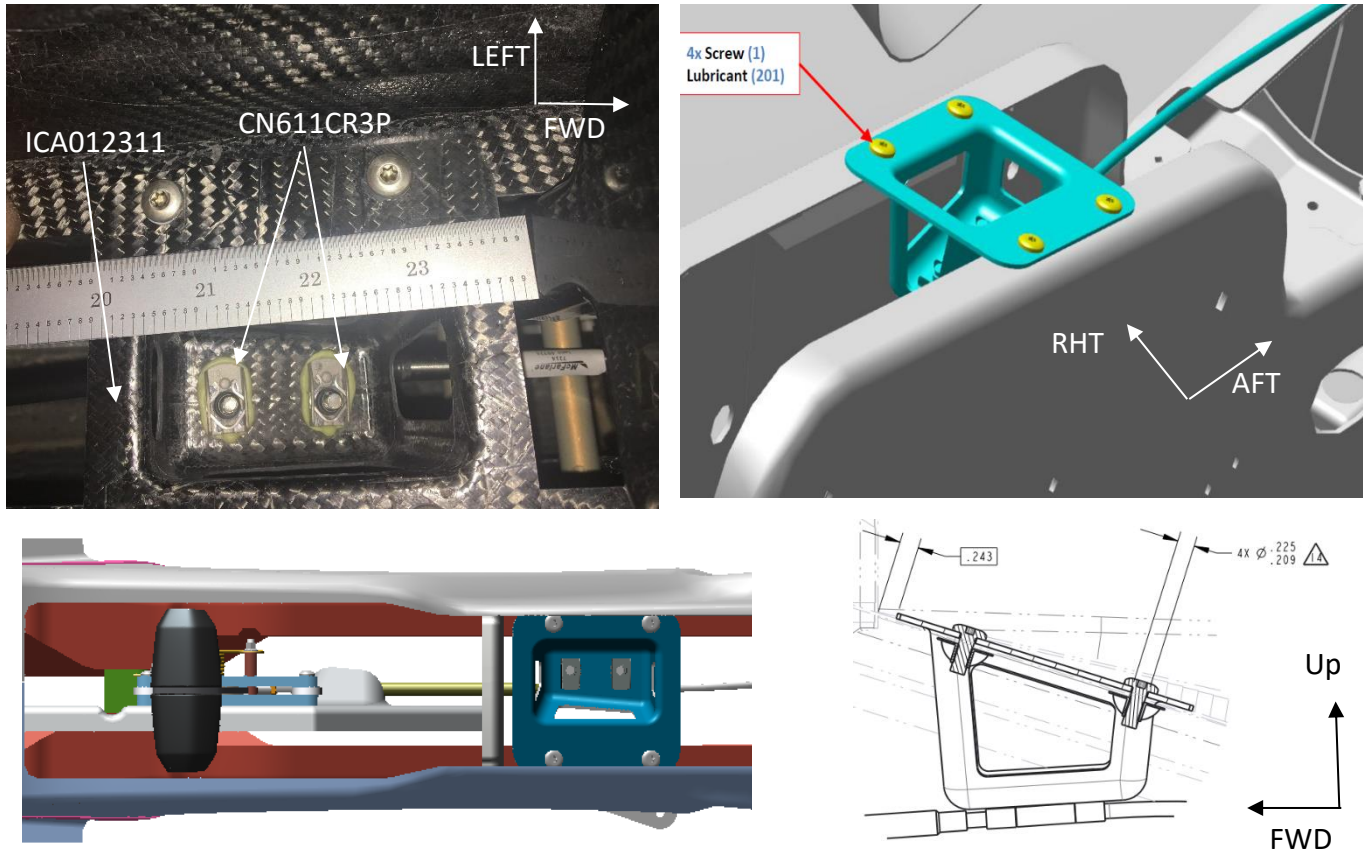

Figure 3: Location of the ICA012311 into the aircraft keel
3. Sub assemble ICA012311 throttle cable bracket by bonding two CN611CR3P nut plates into the inside of the throttle cable bracket using CB200 adhesive. Bond the nut plates in accordance with Click Bond specification CBPS-206E. Orient the nut plates as shown in to the diagram in Figure 3 below.
4. Locate the ICA012311 throttle bracket into the center console. Center the bracket between left and right keel halves and .243" aft the center console aft throttle bulkhead as shown in Figure 3.